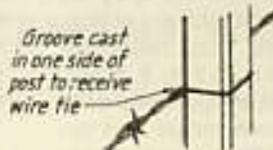

Fig. 4. Wire ties of this kind hold securely.
**Erecting the fence.** For best results, line posts should be set at least 2 ft. into the ground. Corner posts should be well braced and set  $3\frac{1}{2}$  to 4 ft. deep. Fence wires are fastened to concrete posts by wire ties, as shown in Fig. 4.